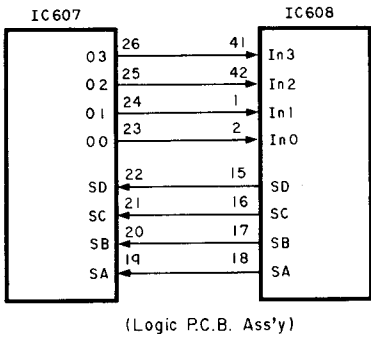

Fig. 5.6 Data Transfer Between IC607 and IC608
(1) Data transfer between input port expander IC607 and MPU IC608 (Refer to Fig. 5.6.)